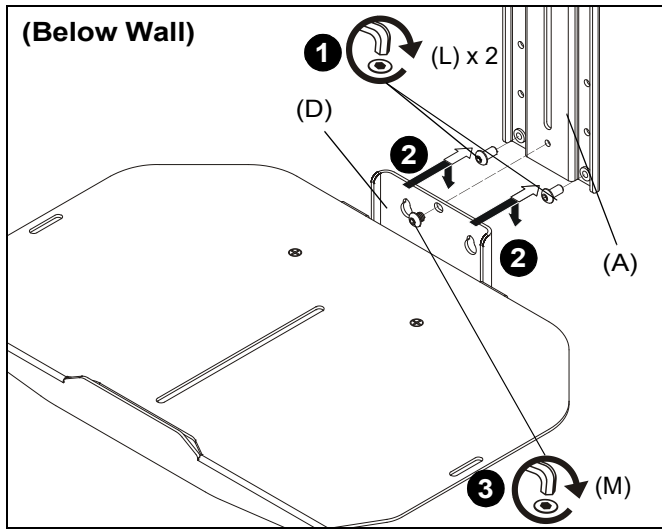
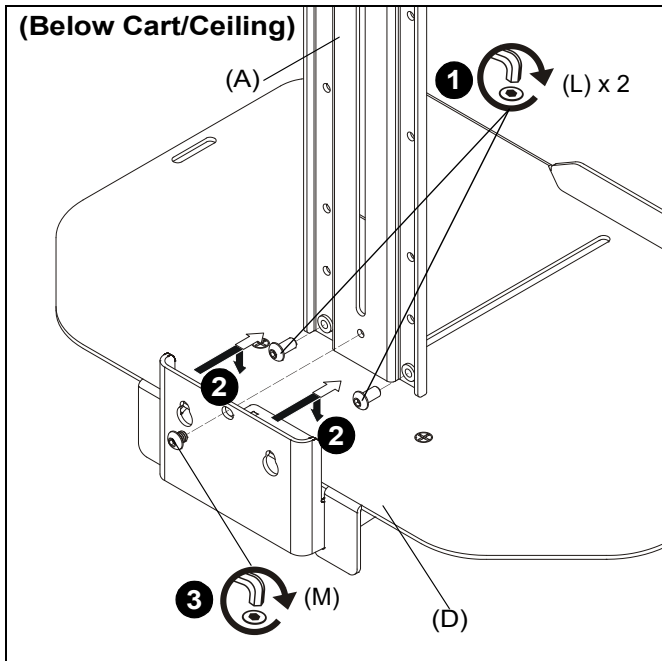

Figure 1
Figure 2
1. Install two 1/4-20 x 1/2" button head cap screws (L) into lowest holes on upright bracket (A). (See Figure 1) or (See Figure 2)
2. Hang component shelf (D) onto two screws installed in Step 1. (See Figure 1) or (See Figure 2)
3. Use one 1/4-20 x 1/4" button head cap screw (M) to secure upright bracket (A) to component shelf (D). (See Figure 1) or (See Figure 2)
4. Tighten all three screws to ensure upright bracket (A) is securely attached to component shelf (D).